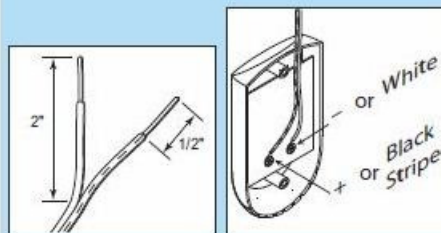

FIG. 3-2 Splitting and stripping.
- Split and strip ends of wire (Fig. 3-2).
- Split and strip ends of wire (Fig. 3-2 on previous page).